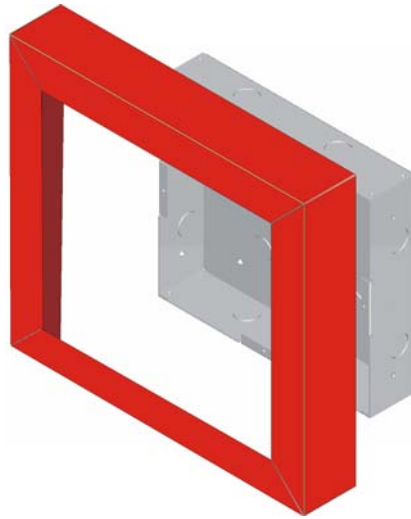

Figure 4-16 Installing Trim Ring
- Place the trim ring over the back box as shown in Figure 4-16.